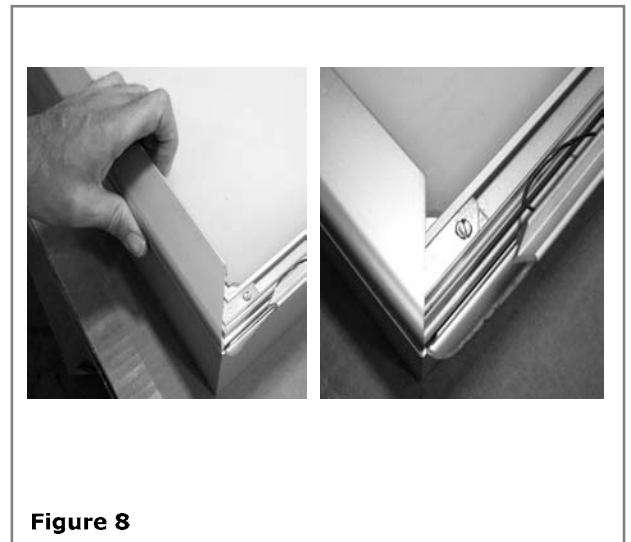

Figure 8
2. Wiggle one frame section opening and closing as you slide the edge of the frame to match up with the edge of the sign body extrusion. **See Figure 8.**